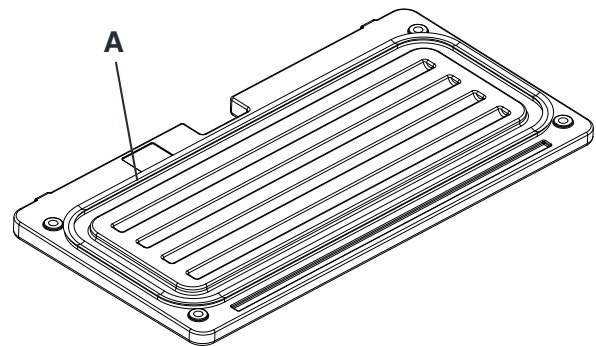

Figure 11
13. Clean the rubber gasket (A, Fig. 11) of the cover (32) and check it for integrity and efficiency; if necessary replace it.